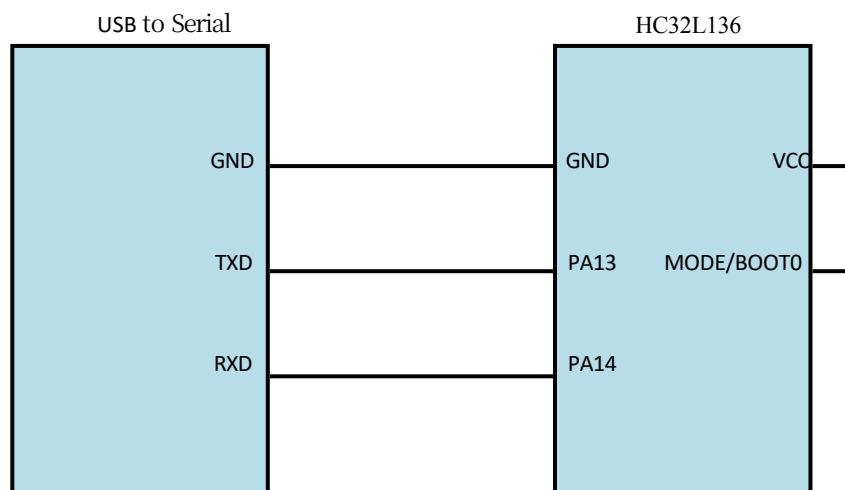

Figure 6 Hardware Connection
- 1) Connect the serial port end of the USB-to-serial cable to the serial programming pin of the target MCU, take HC32L136 series for example, the connection method is shown in Figure 6. Pull up the MODE pin of the target MCU, and then the target MCU will power on and enter the serial programming mode.